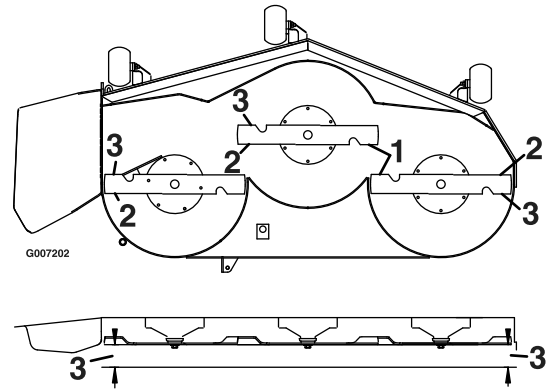

Figure 58
4. Measure between the outside cutting edges and the flat surface (Figure 58). If both measurements